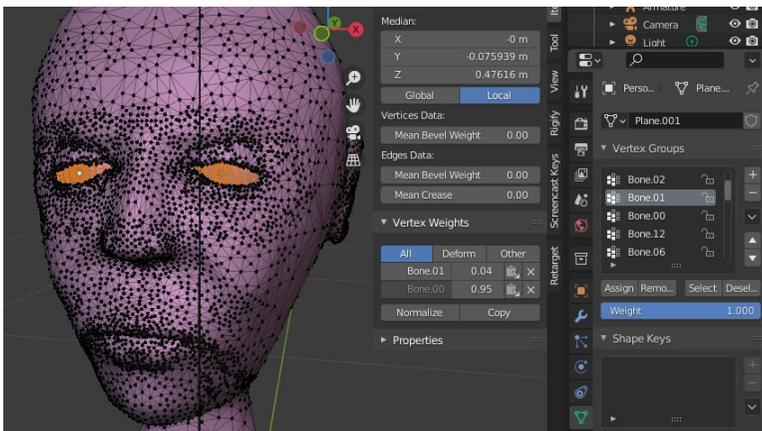

Figure 5-5 Fixing bone influence in Edit Mode
One thing you might find when you use automatic weight assigning, especially for complicated or unconnected bits of mesh such as the eyes, is that large movements of the bones produce unwanted distortions: vertices get "left behind". Sometimes you can fix this in Weight Paint but often it is hard to find which bone is having an unwanted influence. A useful way to solve this problem is to use Edit mode as shown in Figure 5-5
In Figure 5-5 you can see that the eyes were being influenced by the neck bone Bone.01 with a very small weight factor.
14. Select all the problem vertices then, in the Object Data Properties tab under Vertex Groups (on the right of Figure 5-5) select each bone and either Remove it using the button below or change the Weight value and Assign it so that the Vertex Weights match the correct vertex.